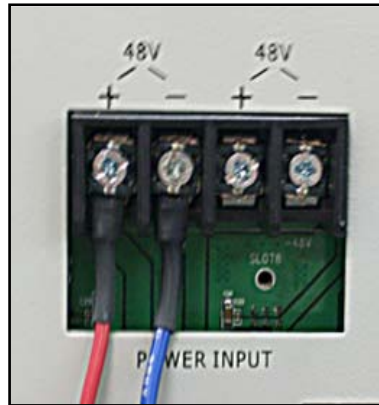

Figure 4-17. Factory Installed DC Power Cable
2. Verify the DC power cable is attached securely, as shown **Figure 4-17**.